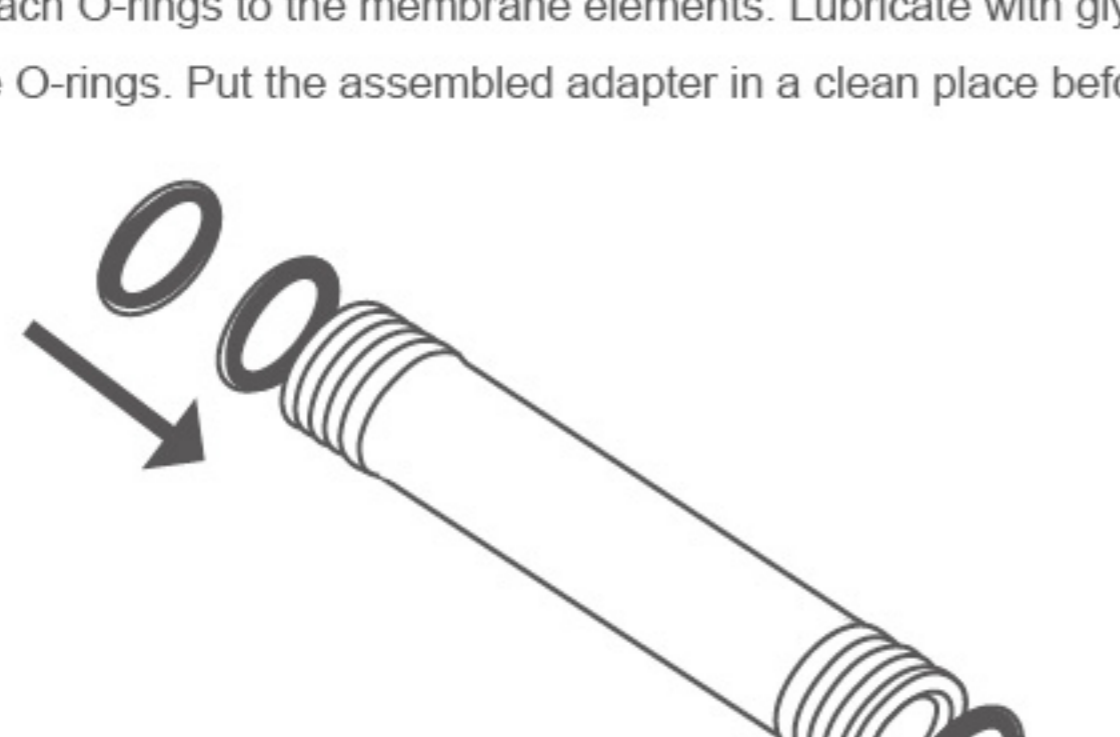

Figure 1
- Attach O-rings to the membrane elements. Lubricate with glycerin during installation and carefully install to prevent scratches on the O-rings. Put the assembled adapter in a clean place before inserting the water pipe (Figure 1).